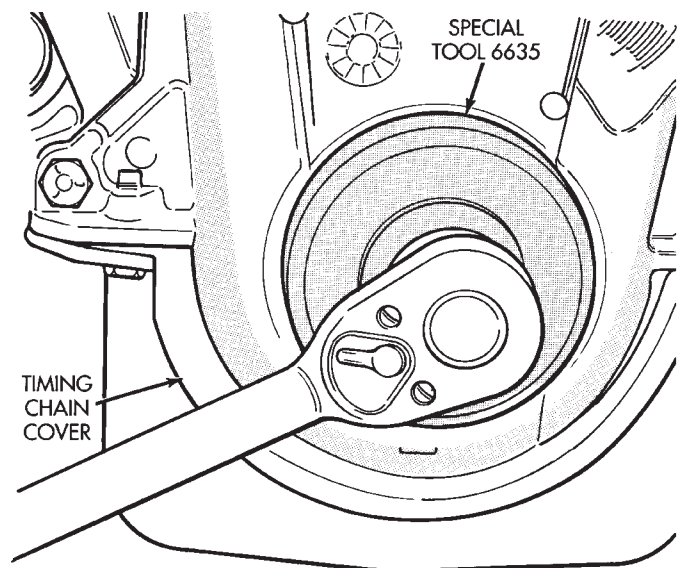

Fig. 51 Installing Oil Seal
- (3) Using the vibration damper bolt, tighten the bolt to draw the seal into position on the crankshaft (Fig. 51).
- (4) Remove the vibration damper bolt and seal installation tool.
- (5) Inspect the seal flange on the vibration damper.
- (6) Install the vibration damper.
- (7) Connect the negative cable to the battery.